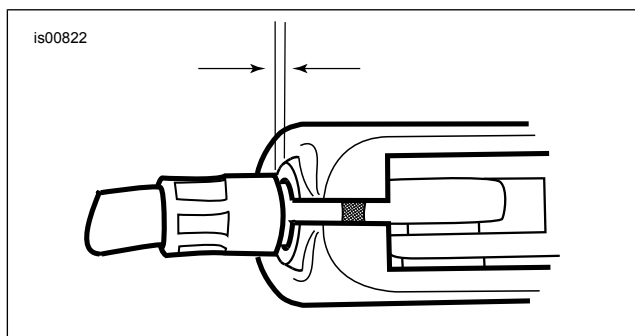

Figure 3. Clutch Cable Free Play, 1/16-1/8 in. (1.6-3.2 mm)
9. See Figure 3. Hold adjuster with a 1/2 in. wrench, and use a 9/16 in. wrench to tighten jam nut against cable adjuster. Cover cable adjuster mechanism with rubber boot.